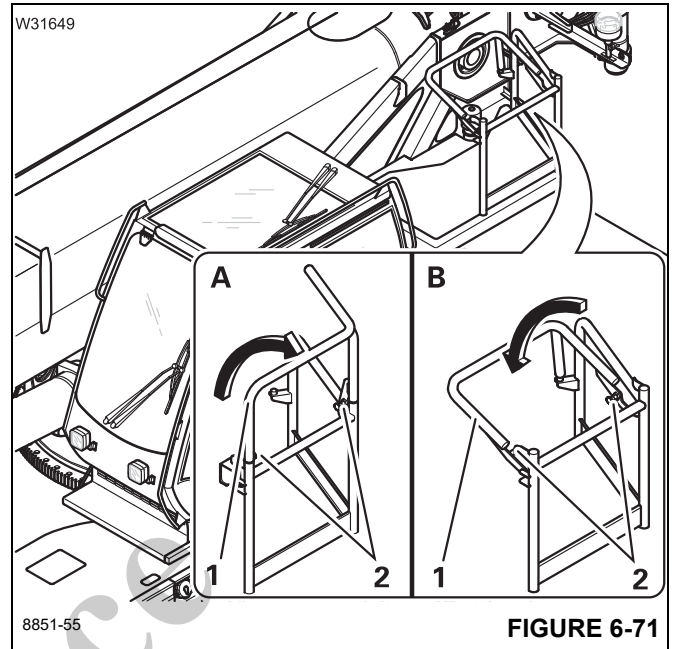

FIGURE 6-71
- Fold the handrail (1), (Figure 6-71) upwards until the pins (2), (Figure 6-71) latch into place.
- Open the locking pins (2), (Figure 6-71).
- Fold the handrail (1), (Figure 6-71) in until the pins (2), (Figure 6-71) latch into place.